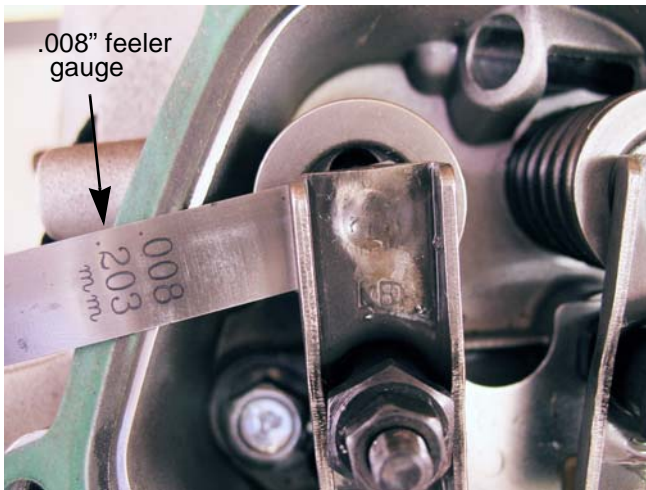

Figure 1.12
10. Exhaust valve lash (muffler side) should be .006-.008" (0.15 - 0.20mm). See Figure 1.12.
11. Use a 10mm wrench to loosen the jam nut, and a 14mm wrench to adjust the rocker arm fulcrum nut. See Figure 1.12.